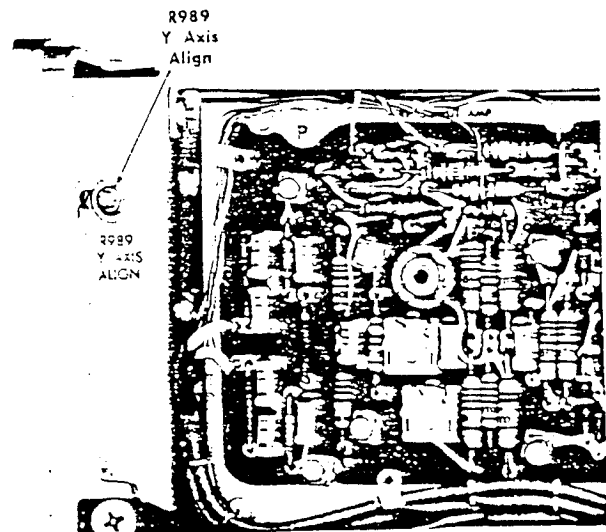

Fig. 6-16. Location of Y Axis Alignment adjustment (left side).
- c. Adjust—Y Axis Align adjustment, R989 (see Fig. 6-16), to align the markers with the centerline.